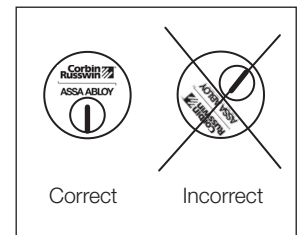

Fig. 6b
**NOTE: Position cylinder so that logo is right side up.** (Fig. 6b)